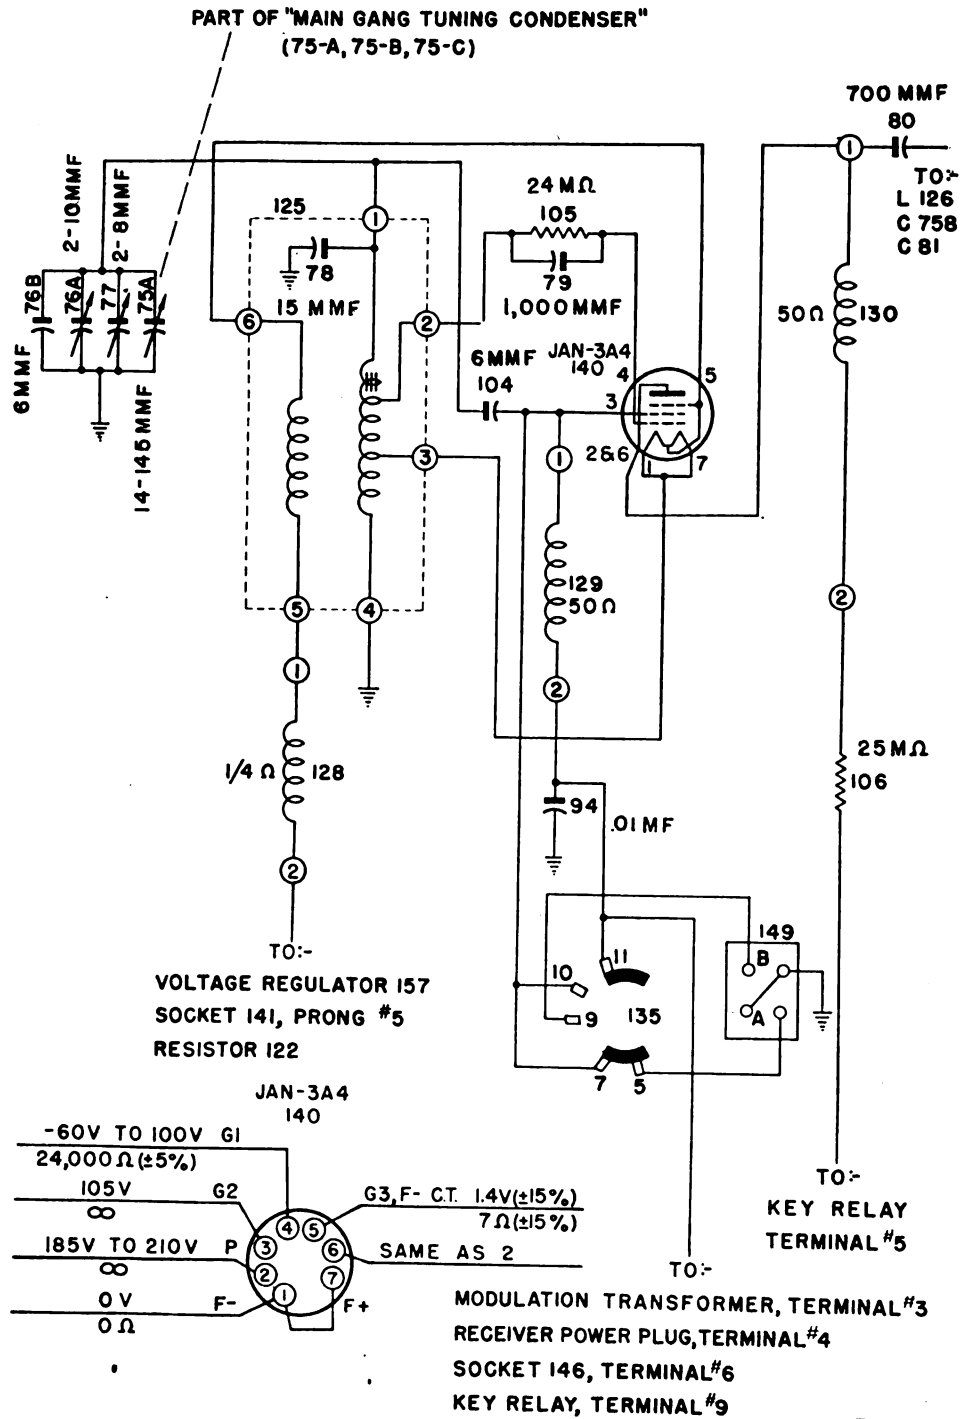

Figure 40. Oscillator stage schematic of transmitter of Radio Receiver and Transmitter BC-1306.
a. STAGE DATA. (1) Oscillator stage schematic, figure 40.
(2) Parts identification illustrations.
(3) *Point-to-point continuity check.* If the preceding steps fail to indicate the cause of trouble, perform a point-to-point continuity check, referring to the stage schematic, figure 40, and to the parts identification illustrations, figures 6, 7, 8, and 55. Check for faulty soldered joints, broken leads, short circuits and grounds.
Table XIX. Parts data, transmitter oscillator stage (fig. 40).